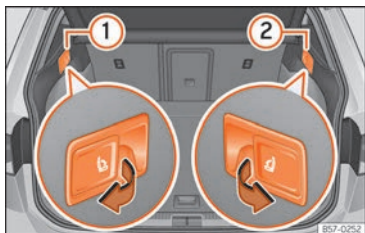

Fig. 130 In the luggage compartment: levers for remote release of the left part **1** and right part **2** of the rear seat backrest.
- Pull the unlocking lever »» **Fig. 130** of the part of the backrest to fold down.